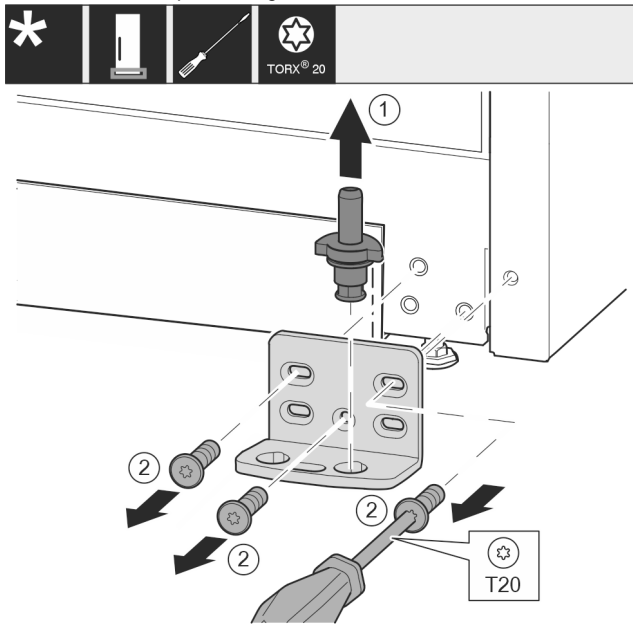

Fig. 18 *
- ▶ Pull the bearing bolt Fig. 18 (1) out upwards completely.*
- ▶ Use screwdriver to unscrew the screws Fig. 18 (2) and remove the swap bearing block.*